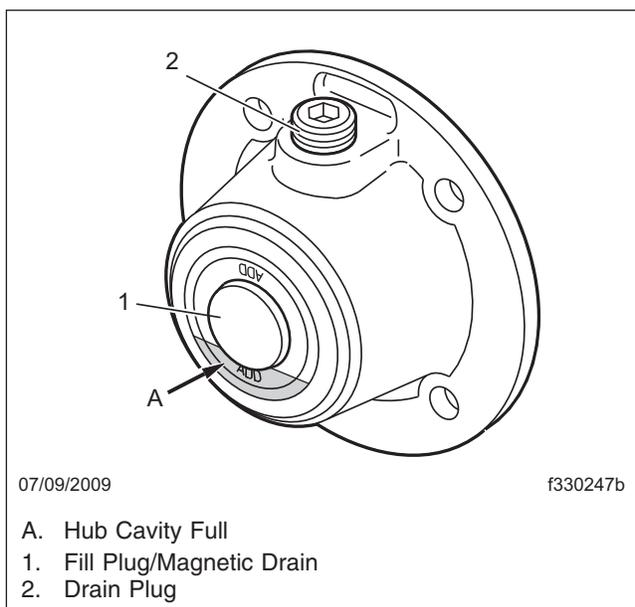

Fig. 5, Oil-Filled Hub Cap
4. Place suitable containers under the hubs, remove the filler plugs (in the ends of the hub caps) and the drain plugs, and allow the hubs to drain completely. See **Fig. 5**.
IMPORTANT: Fill the hubs to the level indicators on the hub caps, or to no more than 1/4 inch (6 mm) above the indicators. See **Fig. 5**.